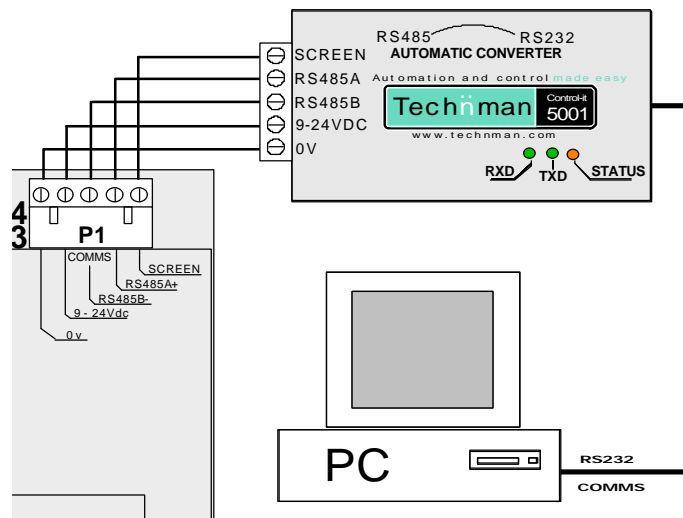

Figure 4 - RS485 connection to the 5001 converter.
2. Connect the module to an RS485 converter as per figure 4. (For more, refer to page 18.) Ensure the converter is connected to one of your PC's serial COM ports.